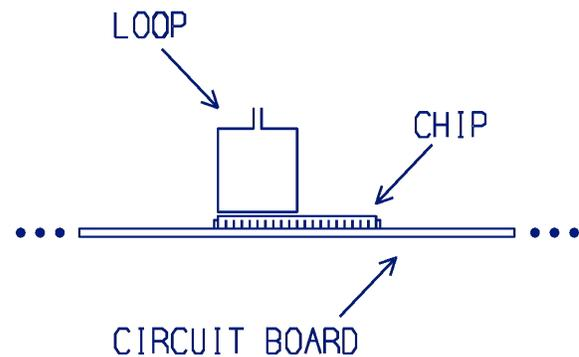

Figure 1. Wire loop positioned over an IC. [2]
If a simple square wire loop is positioned on the surface of an IC package as shown in Figure 1, a voltage will be induced into the loop. This voltage is equal to $M di/dt$ where the di/dt is of currents flowing in the package’s internal connections (and to a small extent in the chip itself) and M is the mutual inductance between the loop and the currents flowing in the package. The voltage drop across an internal connection in the package is $L di/dt$ where di/dt is of the current flowing in the connection and L is the inductance of the internal connection.
Since the loop output is dependent on the loop capturing the magnetic fields generated by currents flowing in the package, this method will not work if there is metal on the top of the package, such as a heat spreader or heat sink. Access to the bare package is required for the time it takes to do the test. This measurement method works well for flat packs with pins around the perimeter (as shown in Figure 1) and for ball grid arrays.
1. Make a square loop whose side is about one half the diameter of the IC package as shown in Figure 1.